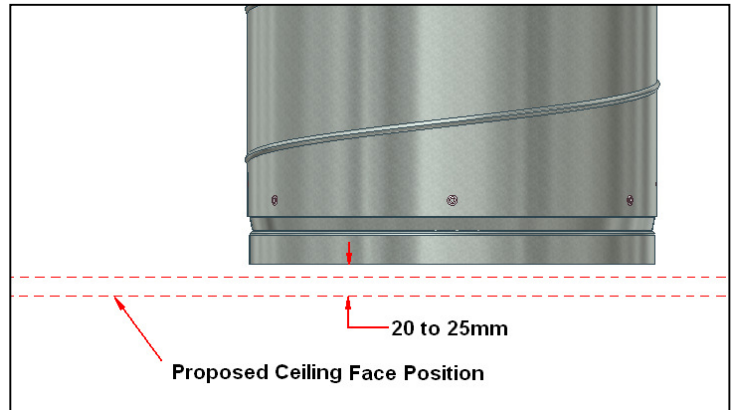

Figure 6: Position Duct above the proposed ceiling face location
4. Raise or lower the Ductwork as required to give a dimension of 20 to 25mm from the bottom of the Duct Mount Collar to the proposed ceiling face (figure 6). Once you are happy with it's location then secure the Ductwork in position using the lock nuts on the Drop Rods.